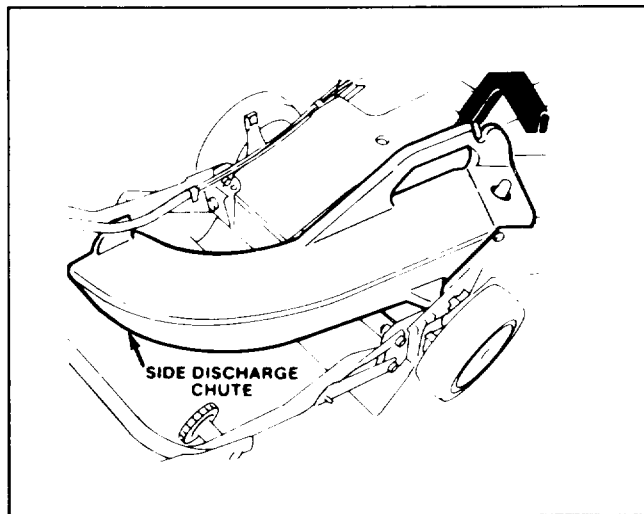

Figure 34
1. Side Discharge Kit, Model No. 59168—Installs in seconds. Rear mounted in place of the grass bag or discharge tunnel plug. Disperses clippings while trimming on both sides (Fig. 34).